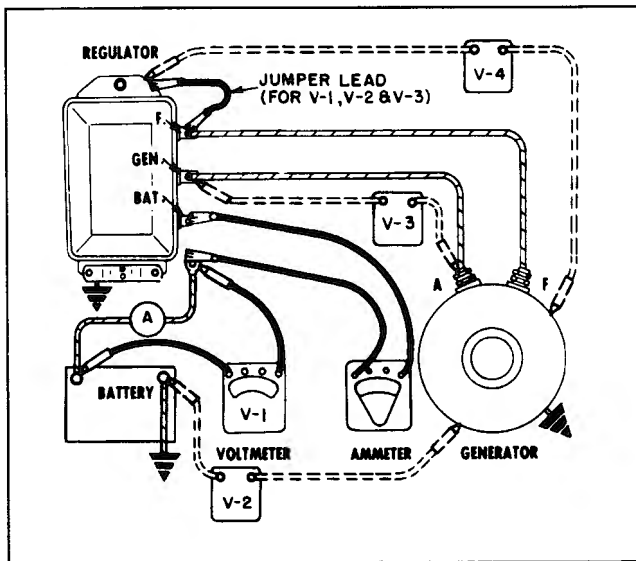

Fig. 12-8 Testing for Voltage Drops in Charging Circuit
Excessive voltage drop in the charging circuit tends to keep the battery in an undercharged condition. To check for excessive voltage drop (resulting from loose connections or other high resistance) in the charging circuit, make connections as shown in Fig. 12-8 and proceed as follows:
4. With the engine stopped, turn on the full lighting and accessory load (approximately 20 amperes). Measure the voltage drop at V_4 (Fig. 12-8). If this voltage drop exceeds 0.1 volt, excessive resistance is indicated in this portion of the charging circuit.